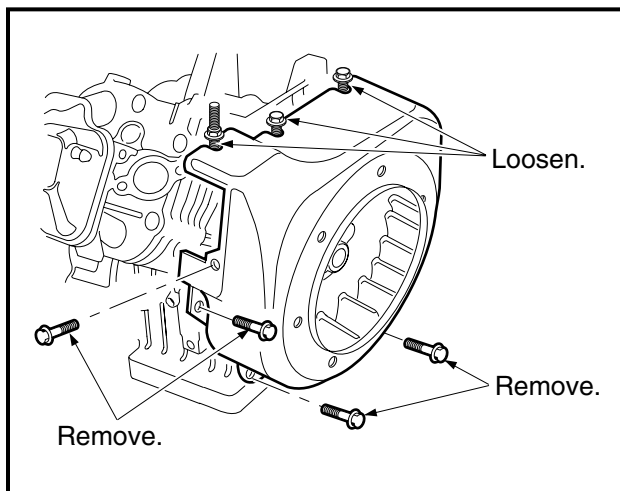

Figure 18-53 Flywheel Housing
1. Loosen four screws and remove the remaining four screws attaching the flywheel housing, then remove the housing (**Figure 18-53, Page 18-28**).